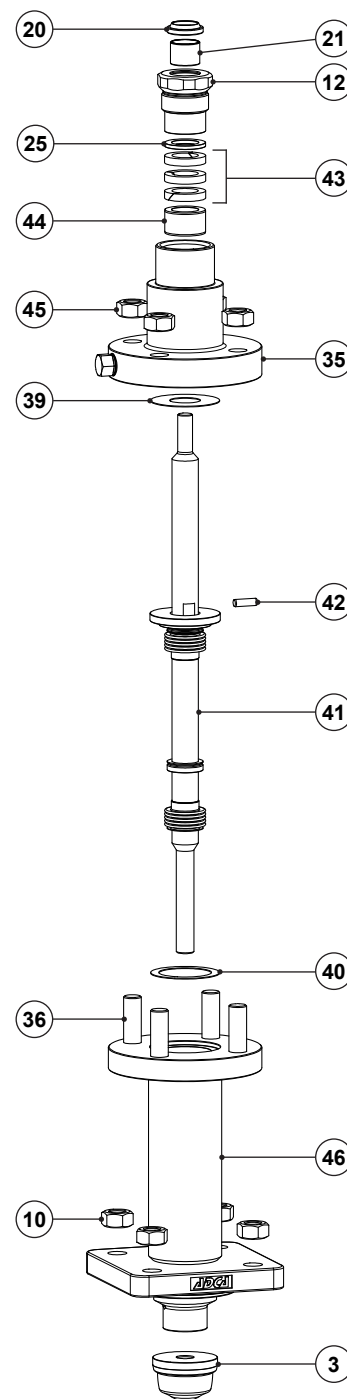

Fig. 13 - Bellows sealing (BG1)
1. Undo the nuts (45) gradually in a crisscross pattern and separate the bellows bonnet (35) from the bellows housing (46).
2. Unscrew the gland nut (12) and remove it carefully together with the O-rings (22, 23).
3. Pull out the washer (25), graphite packing set (43) and spacer (44) using a suitable tool.
4. Clean the packing box, insert the spacer (44), and the new graphite packing set (43) rings one by one. When fitting the graphite rings ensure the scarf joints have an offset from the one below by 90°. See Fig. 13.
5. Renew the scraper ring (20) and plain bearing (21) if necessary.
6. Fit the washer (25), apply a slight smear of anti-seize lubricant to the gland nut (21) and screw it loosely with your fingers until resistance can be felt. The packing must not be significantly compressed at this stage.
7. Undo the nuts (10) gradually in a crisscross pattern and separate the bellows housing (46) from the valve body (1).
8. Firmly fix the valve plug (3) on a vise, fit a wrench on the two slits close to the locking pin (42) and unscrew the plug (3) from the stem (7).
9. Remove the valve stem (7) with the bellows (41) from the bellows housing (46).
11. Fix the new valve plug (3) on a vise with the thread facing up. The vise jaws should be gripping the plug section with the largest diameter.
12. Fit a new gasket (39) and insert the new bellows (41) on the bellows housing (46).
13. Apply a suitable high temperature adhesive compound on the lower stem (7) thread and screw it onto the seat, tightening with 50 Nm (DN 15 to 50 – ½" to 2"), 120 Nm (DN 65 to 150 – 2 1/2" to 6") and 230 Nm (DN 200 – 8").
14. Insert the pin (42) onto the stem (7) and fit a new gasket (39).